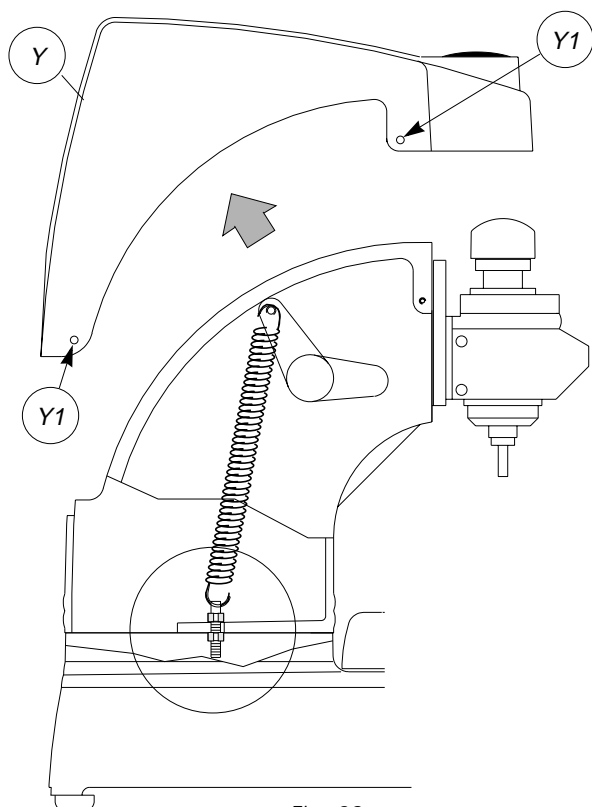

Fig. 28
2. loosen the four screws (Y1) and remove the upper casing (Y) (Fig.28).